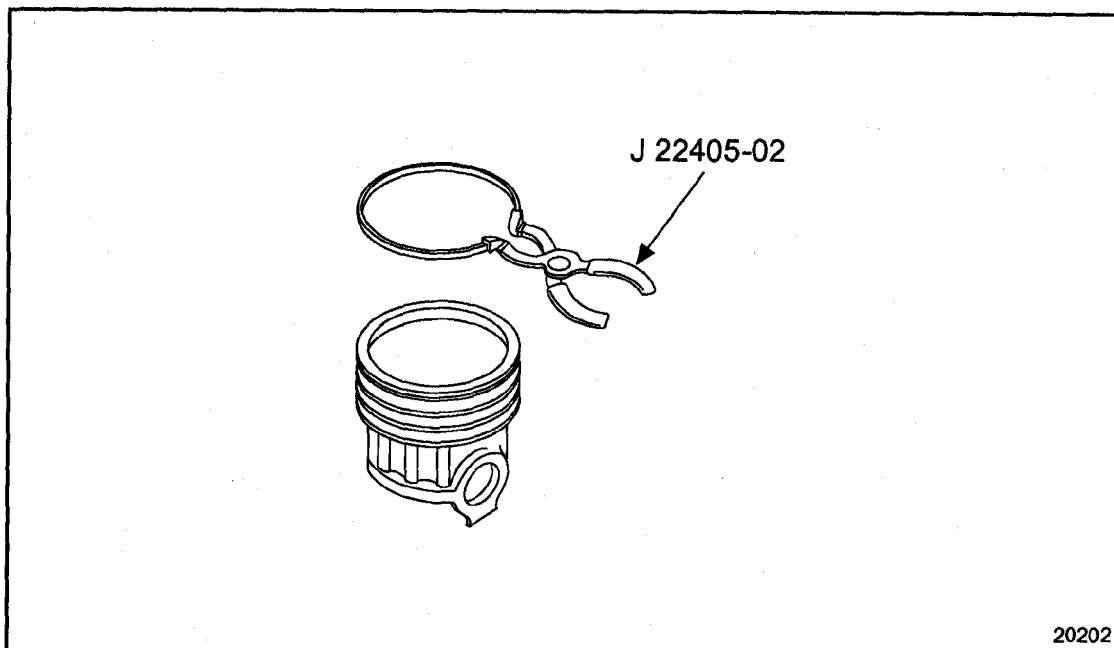

Figure 1-246 Removal of Piston Rings
1. Remove the piston rings with tool J 22405-02. See Figure 1-246.